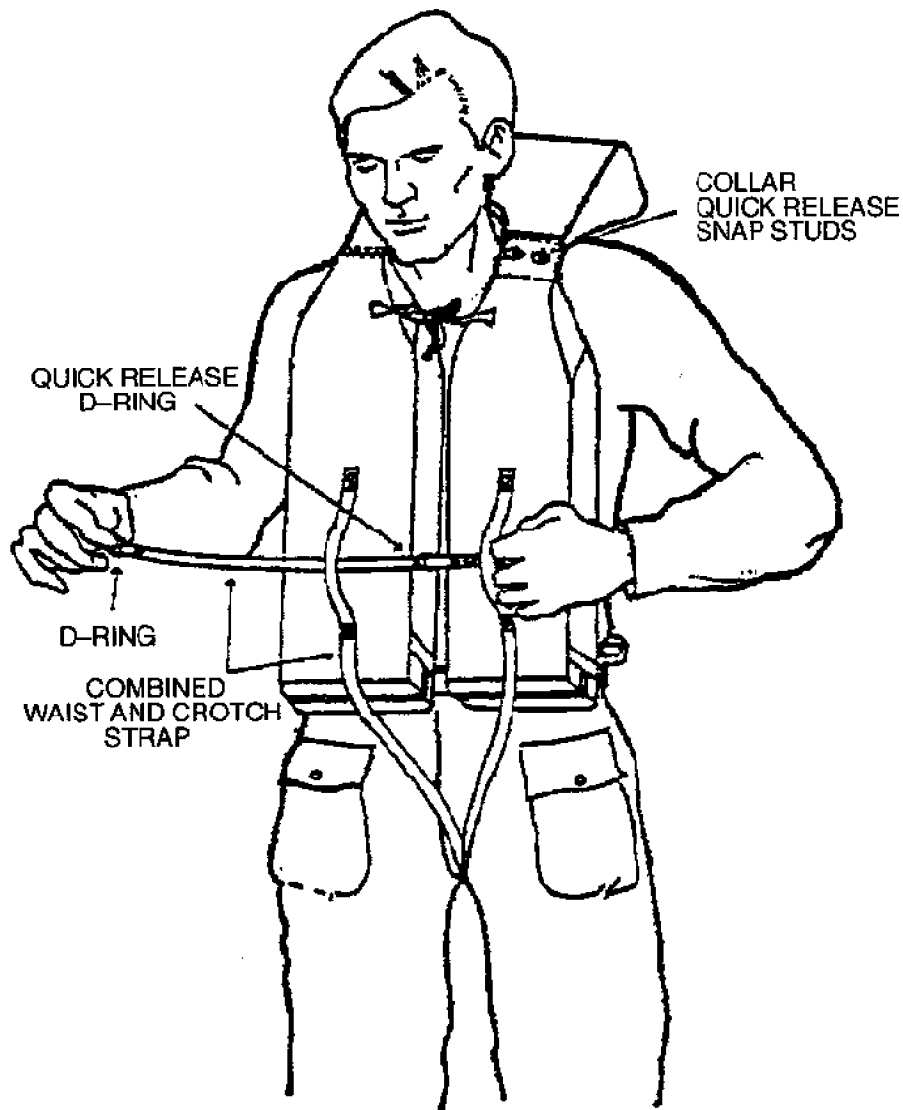

Figure 077-2-8. Yoke Type Life Preserver, Final Donning Adjustment
6. Adjust the waist strap so that it is comfortable and snug. Tighten by pulling strap through D-ring, as shown in Figure 077-2-8.
1. Pull waist strap quick-release D-ring, shown in Figure 077-2-8, allowing life preserver to come loose.